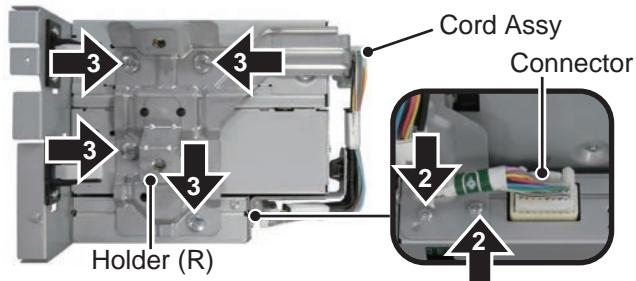

Fig.6
- Disconnect the Cable from the Connector.(Fig.6)
- 2 Remove the two screws.(Fig.6)
- 3 Remove the four screws and then remove the Holder (R) and Cord Assy.(Fig.6)